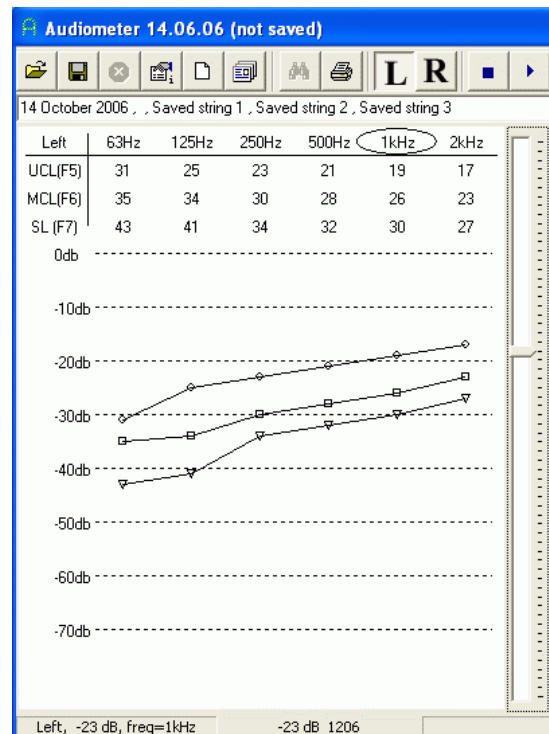

Figure 14
Making a mark in a chart: to mark the current stimulation signal level as **UCL**, **MCL** or **SL**, click the corresponding line (initially the lines are filled with dashes) or press the **F5**, **F6** or **F7** key, correspondingly. Entered points are marked with circles (UCL), squares (MCL) and triangles (SL), and are connected, wherever possible, with straight lines (see Figure 14). To delete a wrong number, press the **Ctrl** key together with one of the above options. A dash should appear in the corresponding line. This function is not available in the TDL mode!